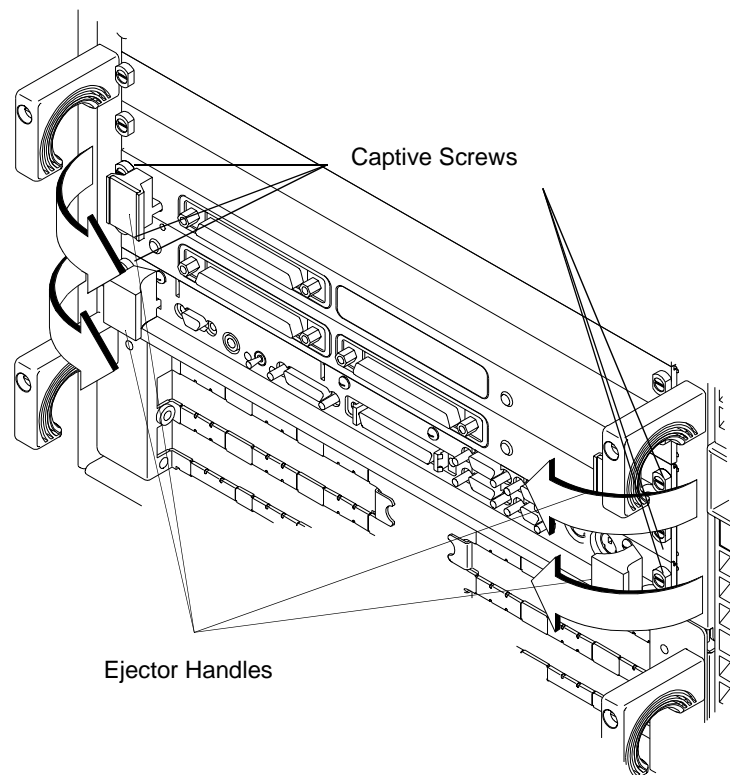

Figure 2-13
- 16 Engage all captive screws before tightening each screw of the board computer/PMC assembly. See Figure 2-13